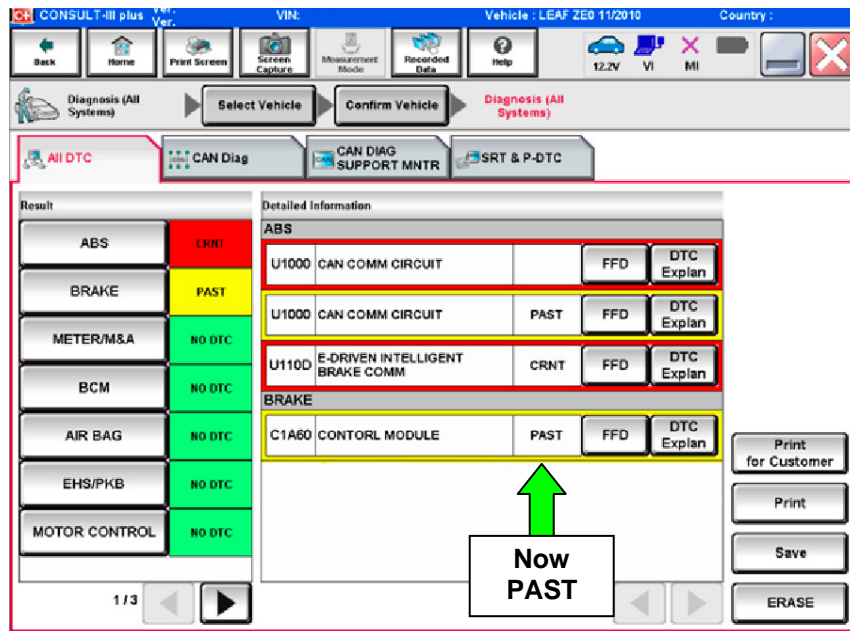

Figure 30
- Figure 30 should now be displayed with C1A60 as a PAST DTC.